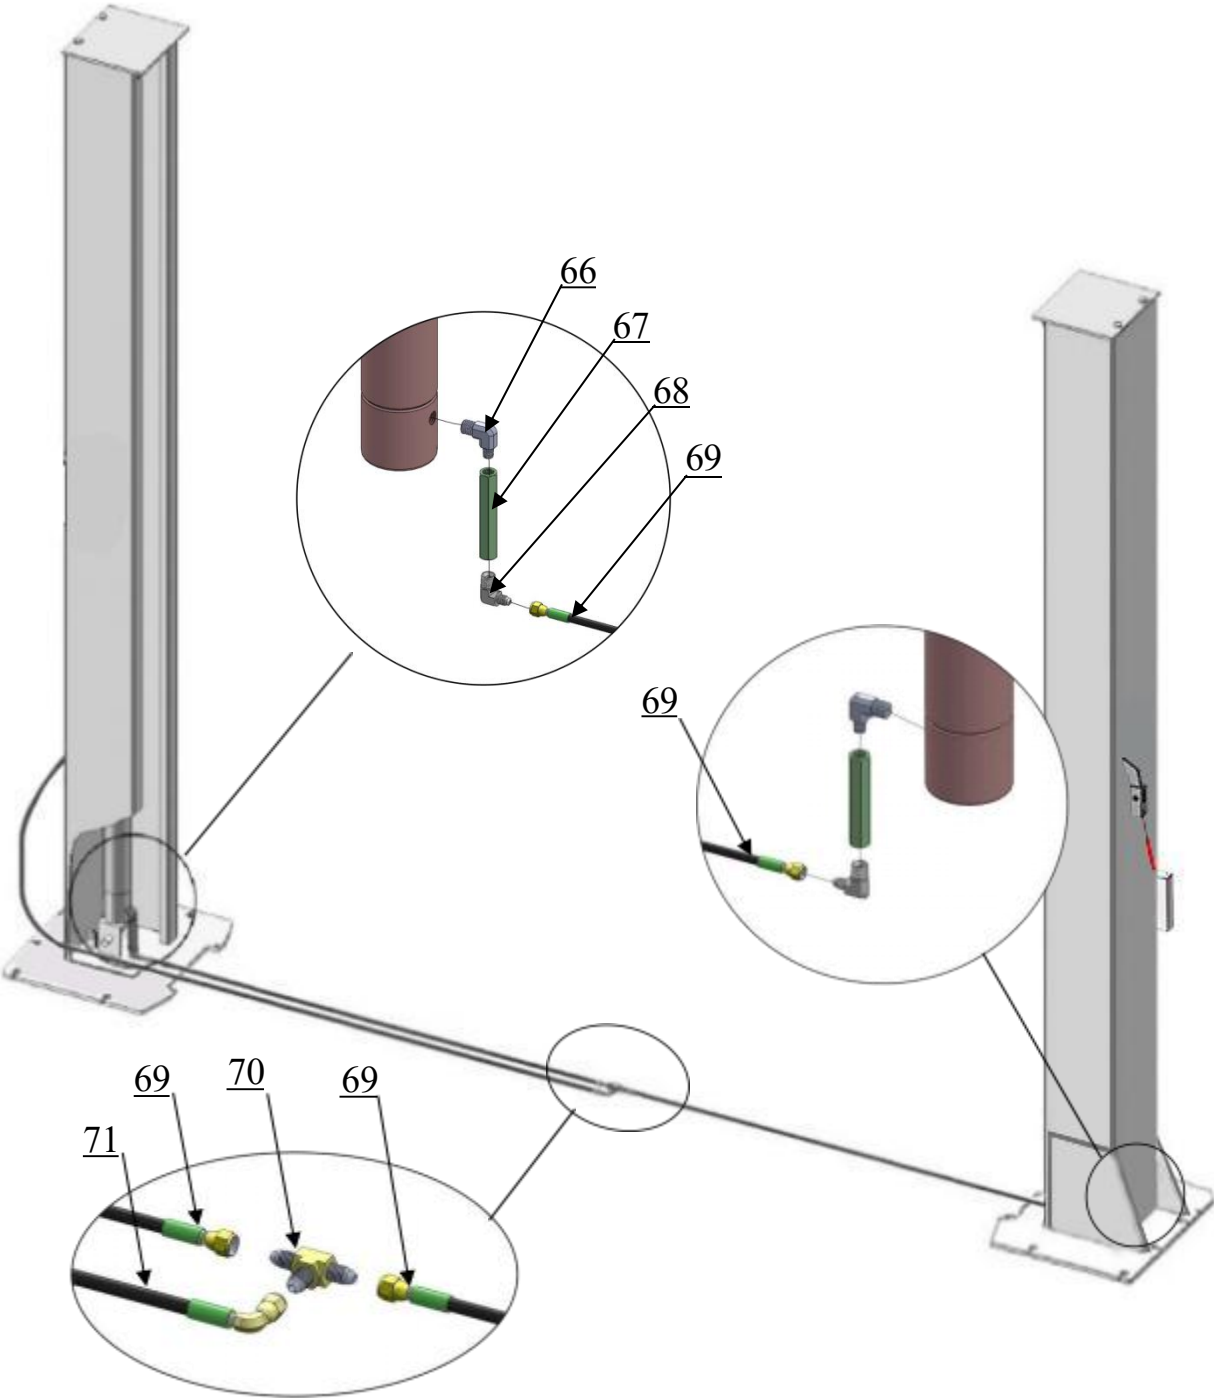

Fig. 20
J. Assembly oil hose assy. (See Fig. 20)